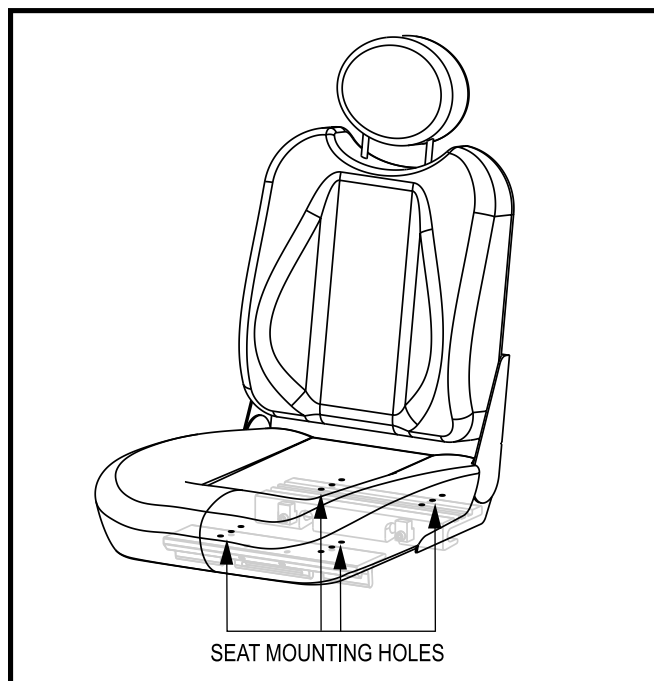

Figure 22. Seat Mounting Holes
5. Reposition the extrusions on a different set of mounting holes. You must move both extrusions the same number of holes either forward or backward. See figure 22.